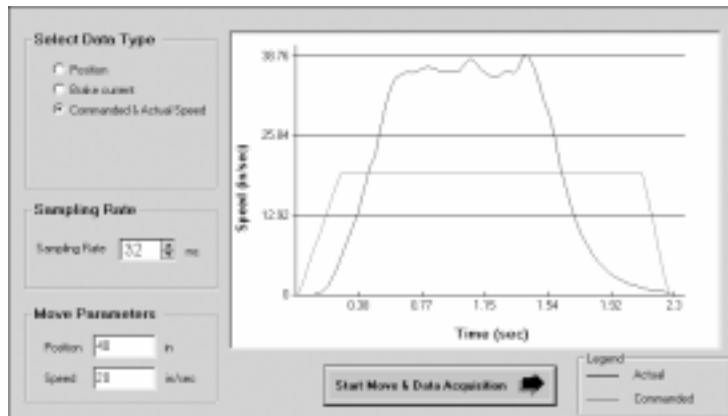
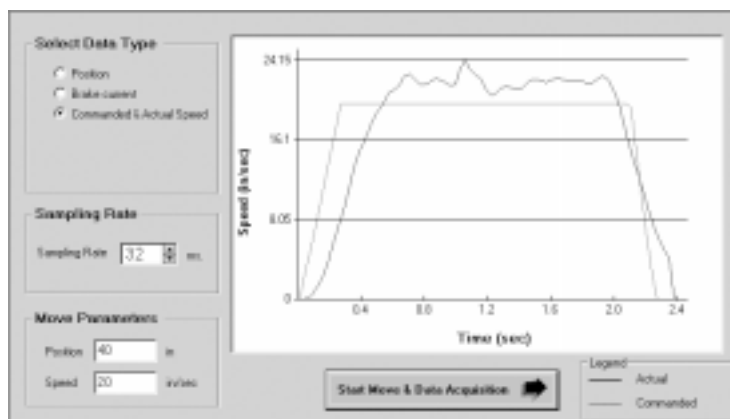

Figure 7.6c
Figure 7.6d
- See figure 7.6c for the proper air pressure (25 PSI) for this example. Notice the speed is higher then desired, but the acceleration rate is met.
- Once the proper air pressure is selected (See setting proper air pressure example), increase the Kv gain and use the Command & Actual Speed in the Data Acquisition to adjust the velocity control. In this example the settings are the same as figure 7.6c, 25 PSI, KP40, KI 1, KV 1, KT 45. See figure 7.6d, KV is adjusted to 4.